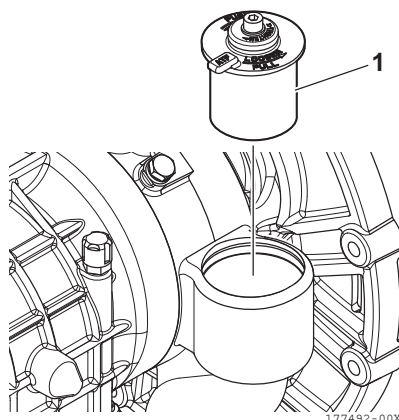

Figure 22
13. Install the oil filter assembly (1, **Figure 22**) to the gear box.